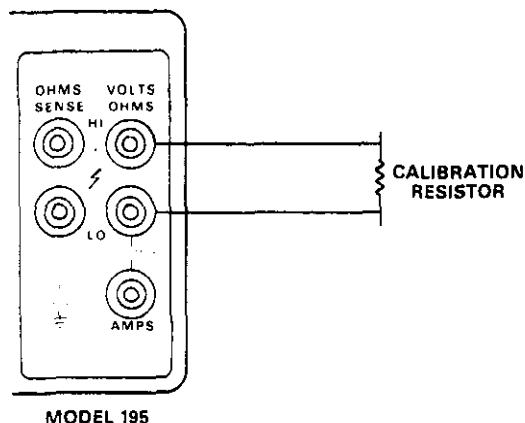

Figure 7-4. Connections for Calibration of 2kΩ Through 20MΩ Ranges
2. Connect the calibration resistance to the VOLTS OHMS terminals. See Table 7-5 for recommended values. Use the 4-terminal connections shown in Figure 7-3 for calibration on the 20Ω and 200Ω ranges if desired. The 2-terminal connections shown in Figure 7-4 may be used for all ranges if zero is left enabled.